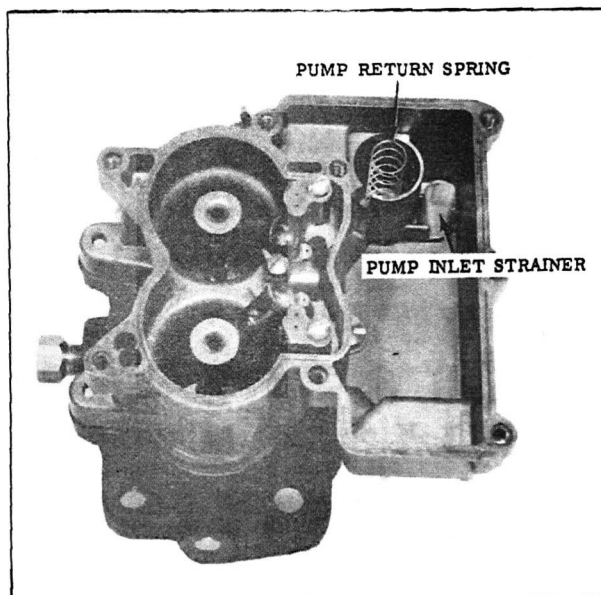

Fig. 26 Pump Strainer and Spring
5. Replace pump inlet strainer, pressing carefully into position. (See Fig. 26)